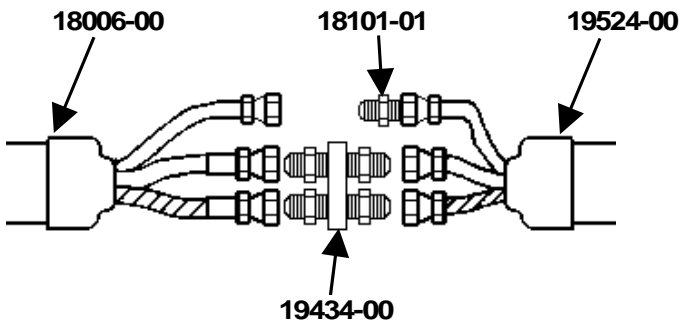

Fig. 1
1. Connect Whip Hose, P/N 18006-00 to Hose assembly, P/N 19524-00 using Hose Union assembly, P/N 19434-00 and Air Line Fitting, P/N 18101-01. (See Fig. 1)